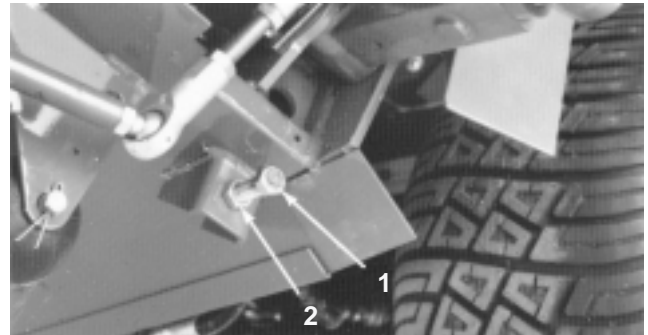

Figure 70
3. To adjust distance, locate adjuster bolt on rear outside corner of center cutting unit (Fig. 70). Loosen jam nut on adjuster bolt. Loosen or tighten adjuster bolts until 0.25 ± 0.12 in. (6 ± 3 mm) clearance is attained, then tighten jam nut.